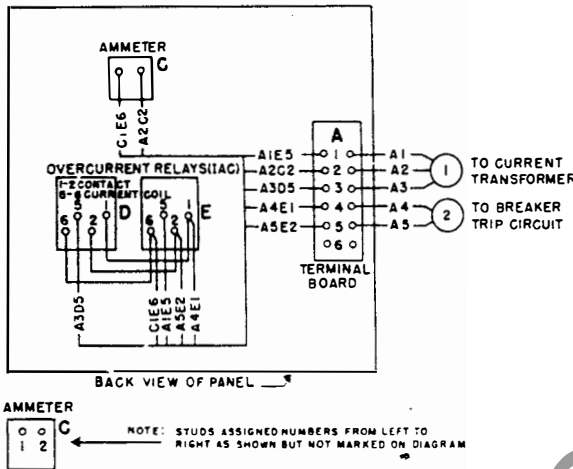

FIG. 3
It will be noted that diagram Fig. 3 shows the relative location of the devices on the panel, the origin and destination of the actual wires used in making the connections between devices, and the terminal board provided for the purpose of joining the connections on the panel to those leading from the panel to the external apparatus.
to right and top to bottom. First letters of the alphabet are assigned to terminal boards a few letters between terminal board and device designations remain unassigned depending upon the size of the equipment, for designating terminal boards which may be added in the future. After all the letters of the alphabet have been used, double letters, AB, AC, AD; etc. are used. Referring to Fig. 3 as an example, the terminal board is assigned the letter "A" and the devices letters "C", "D", and "E".
2. Each stud on a device is assigned a number from left to right and top to bottom. On simpler devices, such as indicating instruments and meters, the numbers may be omitted from the symbol. However, on some devices, for manufacturing reasons, the stud identification is not in the above stated order; in these cases the stud numbers are as indicated on the internal device diagram as shown in Fig. 3.
The method outlined for tracing out a circuit on the simple diagram of Fig. 3 also holds for more complicated diagrams. With the aid of the respective elementary diagram while tracing through circuits of the wiring diagram a marked proficiency in reading the diagrams will result and a better knowledge of circuits will follow.